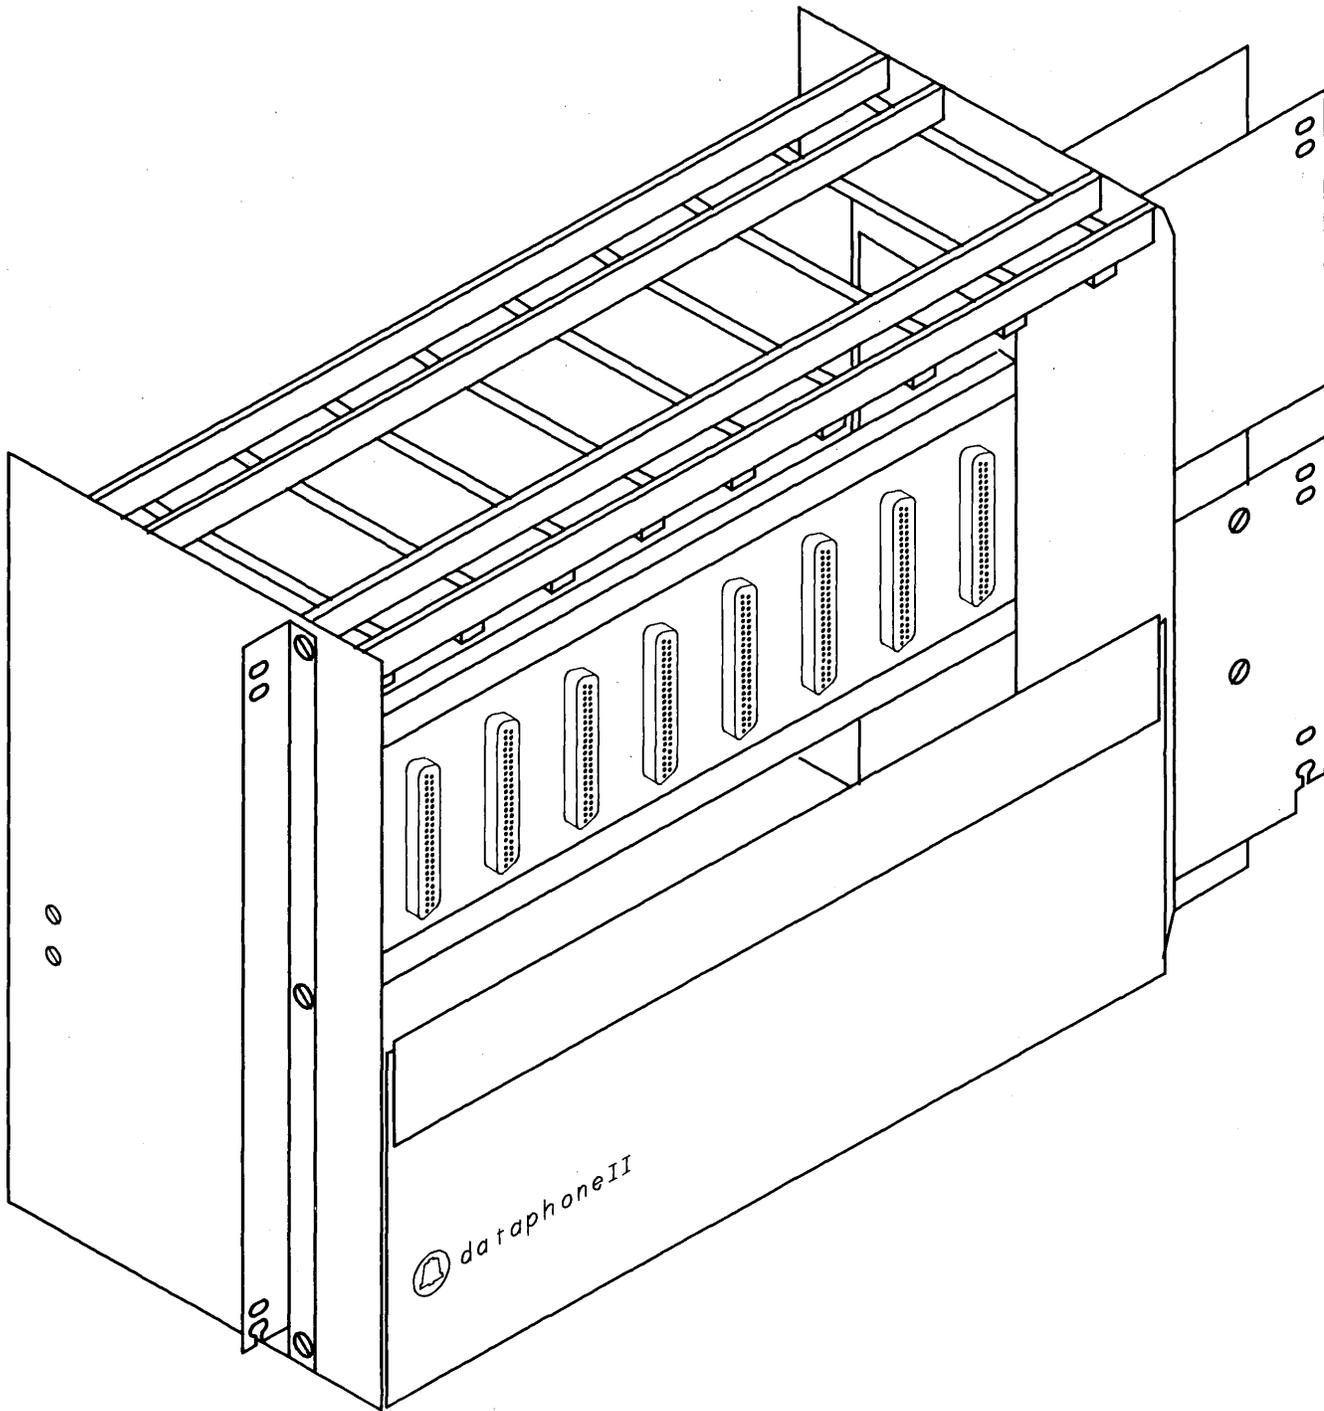

Fig. 1—64A-Type Data Mounting
1.01 This section contains a physical and functional description of the 64A-type data mounting (Fig. 1) and 64C-type data mounting.